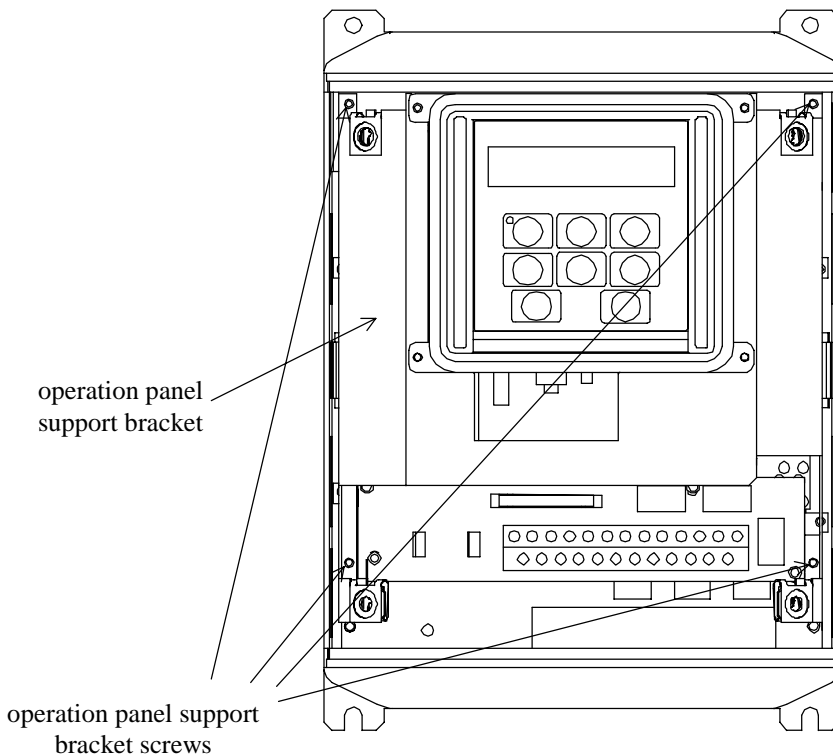

Figure 3: *G3 with front cover removed*
4. Loosen the 4 screws attaching the operation panel support bracket to the control board support bracket and remove the operation panel and support bracket as a unit (refer to Figure 3).